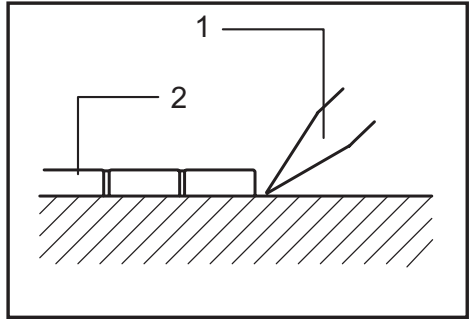

Fig.6
► **Fig.6:** 1. Scaling chisel 2. Tile